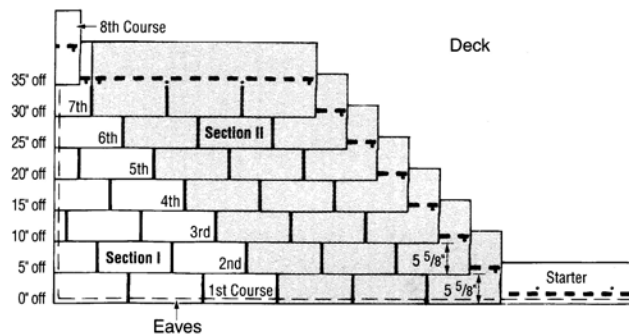

Figure 12-14: Eight-Course, Five-Inch, Stepped-Off Diagonal Method.
1. Begin the second course by cutting 5" off the left end of a shingle and applying the 3-5/8" piece over the first-course shingle, flush with the left edge of the first-course shingle, and exposing the first course 5-5/8" (Figure 12-14).
3. Install "Section II" as shown in Figure 12-14 using full shingles against the eighth courses in "Section I." This must be done before continuing with course nine. These "Section II" shingles are to be butted-up against the "Section I" shingles.